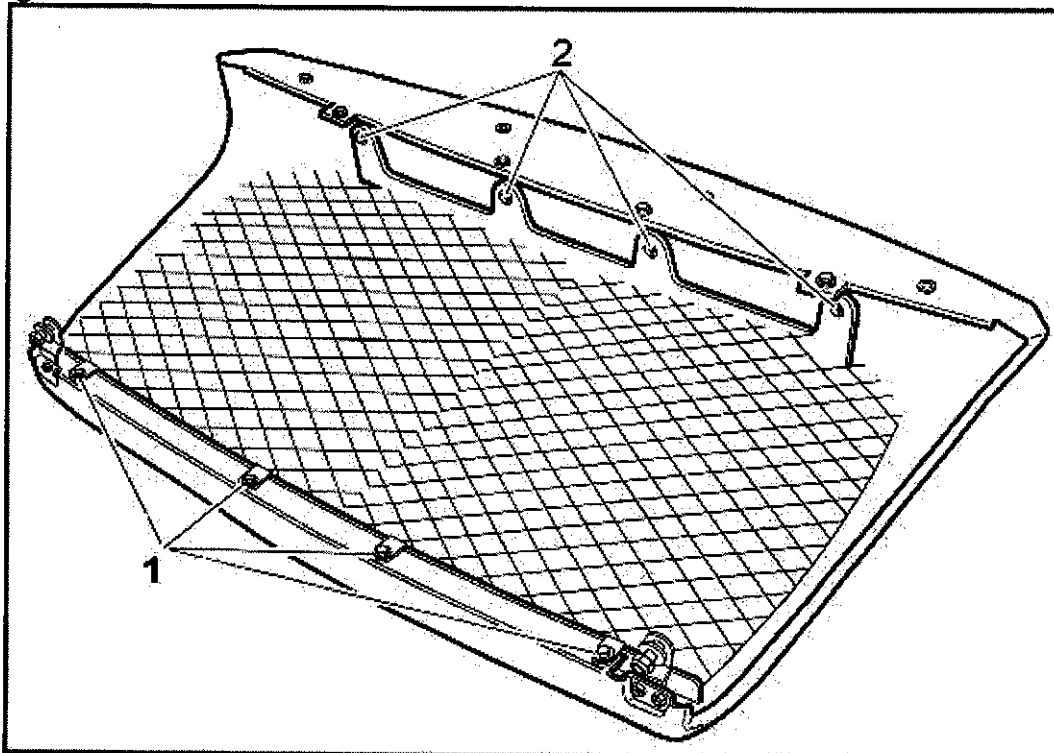

Figure 3
5. Remove the fasteners holding the matrix grille; make note of any washers or spacers prior to removal, lift out assembly and place on a protective surface (see Figure 3)
14. Place the grille into position and tighten fasteners (see Figure 3)